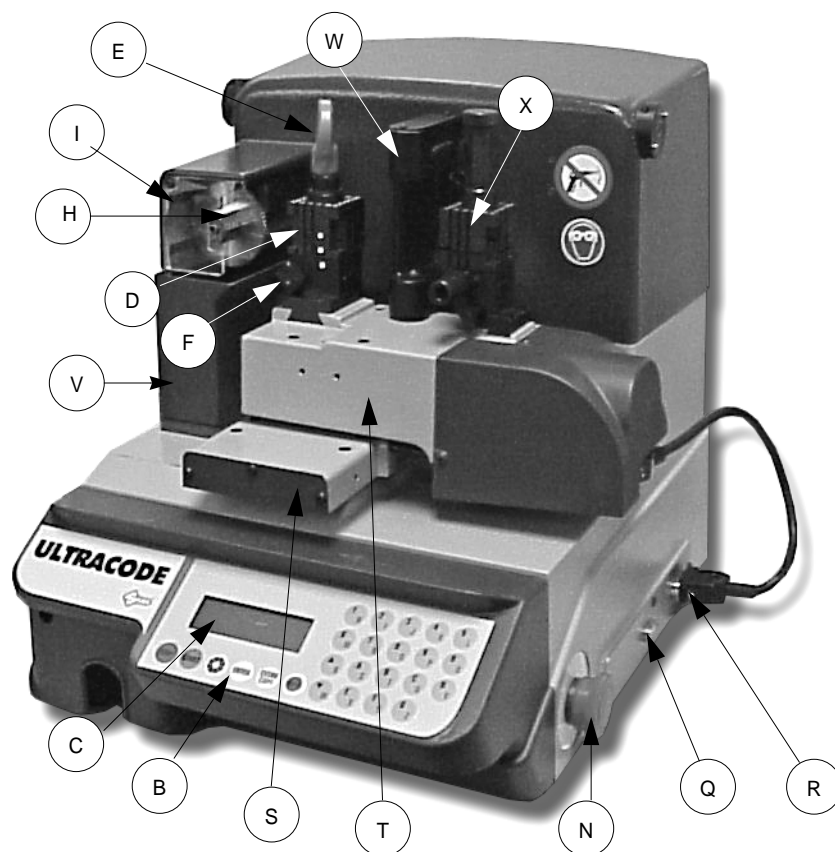

Fig. 4
The red emergency button (N) (fig. 4, page 5) located on the right-hand side of the machine is used to stop the Ultracode immediately in the event of faulty operation or danger to the operator.